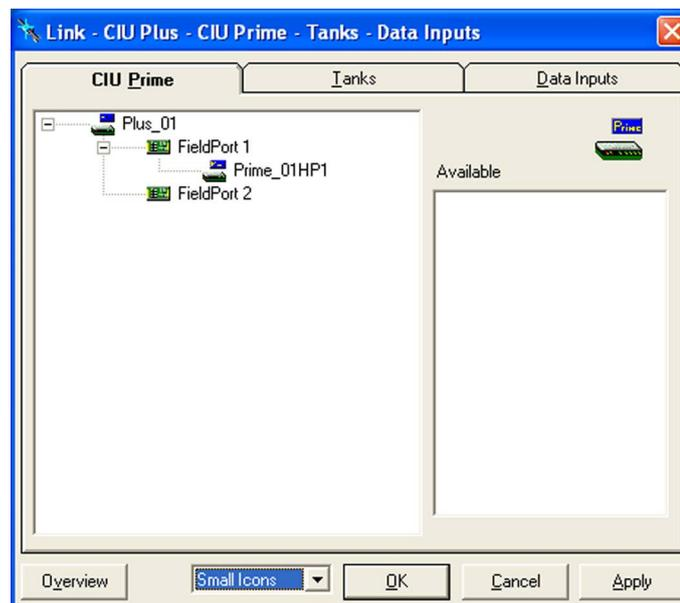

FIGURE 3-12
- HostPort 1 of the primary CIU Prime must be linked to **FieldPort 1** of the primary CIU Plus (see FIGURE 3-12).